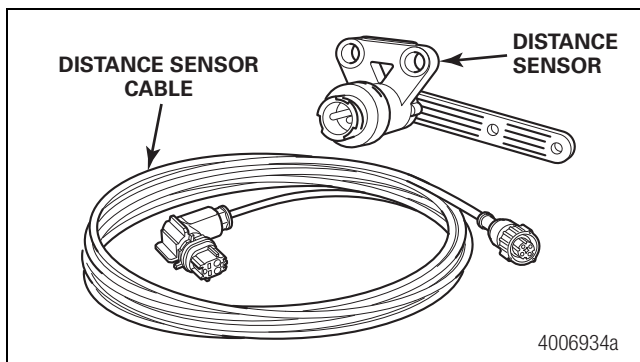

Figure 29
- C. Insert the Distance Sensor Cable into GI/O #1 on the RSS ECU and connect it to the Distance Sensor. Figure 29.